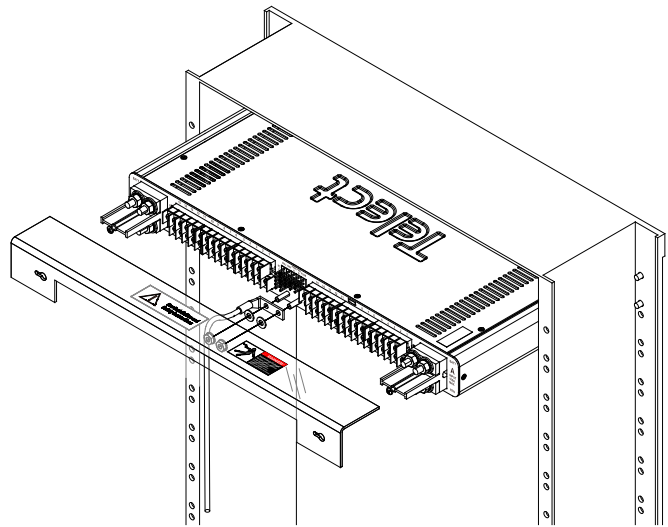

Figure 5 - Ground Lug Connection
4. Remove the transparent terminal cover, shown in Figure 5.
7. Connect the lug using the #10-32 KEPS nuts and flatwashers provided, as shown in Figure 5.